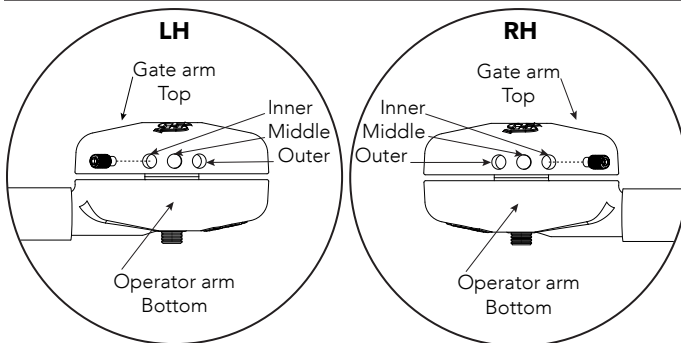

Figure 14. Set Screw Positions
12. For a bent arm in the closed position, install the set screw in the middle or inner position from the gate. A bent arm in the closed position allows the taper clamp to slip and reduces the risk of damage to the operator in the event of a gate strike (Figure 14 and Figure 15C).
13. For a straight (locked) arm in the closed position, install the set screw in the outer position from the gate. A straight arm in the closed position increases security, but increases the risk of damage to the operator in the event of a gate strike (Figure 14 and Figure 15D).